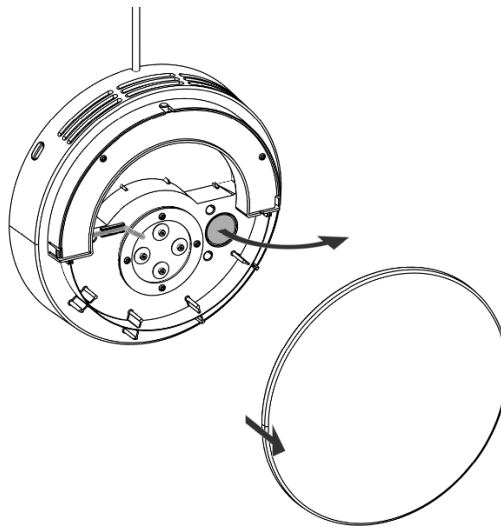

Figure 9 - Plastic bag for sealing
2. Remove the internal cover and take out the plastic bag, which is rolled up tight and located in a little pocket to the right, see Figure 9 below.